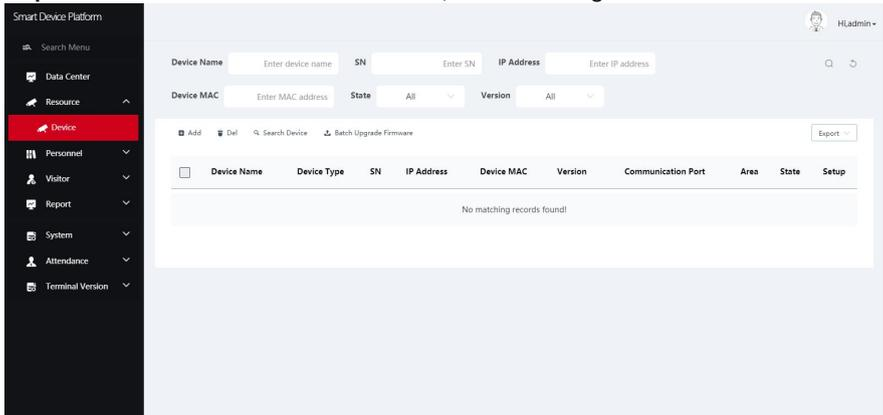

Figure 5-15
Step 3: The selected device has been deleted, as shown in Figure 5-15 below.